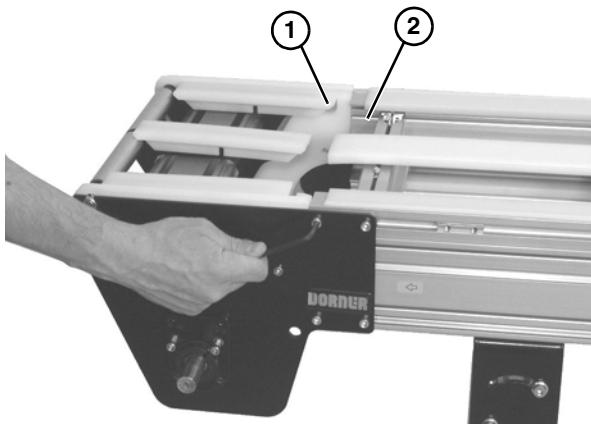

Figure 49
When reinstalling the drive spindle tail assembly, the terminal assembly (Figure 49, item 1) should mate flush with the conveyor frame (Figure 49, item 2).